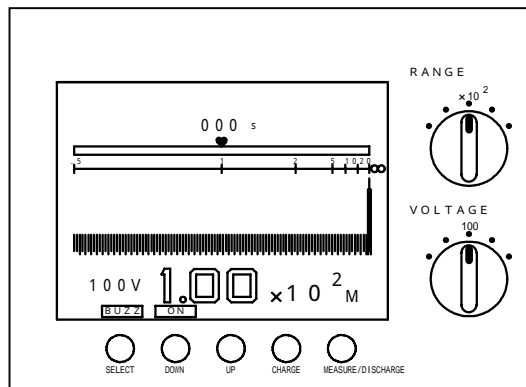

Fig. 6.6.3
- 10) Using the UP and/or DOWN switches, set **ON** or **OFF** for the buzzer. (Fig. 6.6.3)